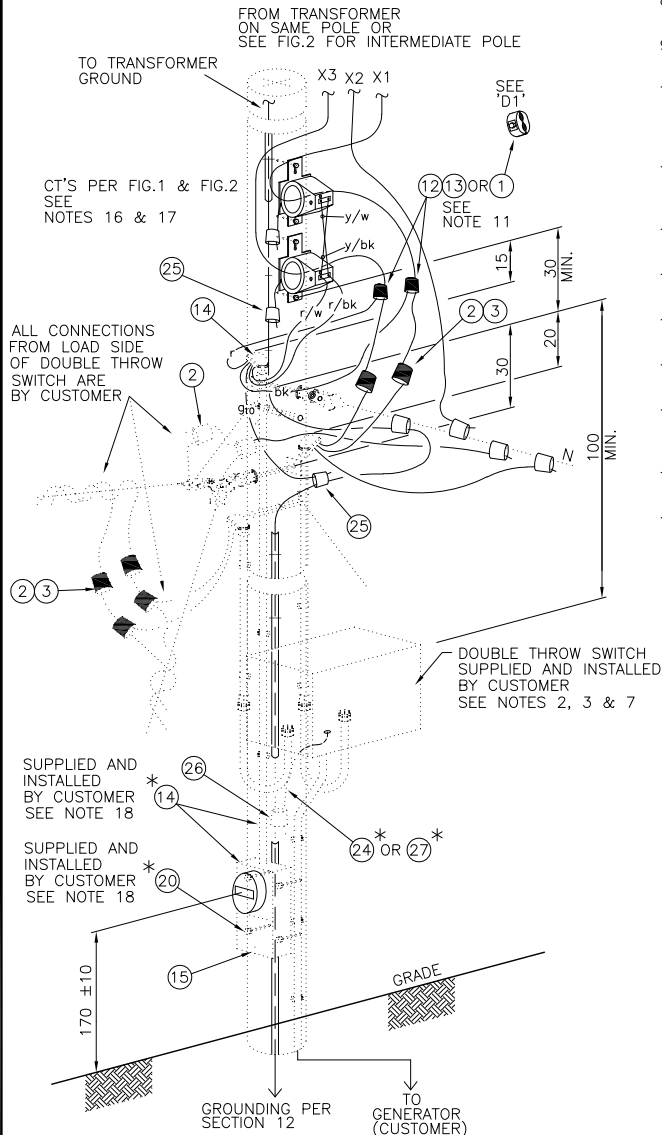

FIG.3
17. FIG.3 COULD BE APPLIED TO EITHER CT MOUNTING CONFIGURATION DEPICTED IN FIG.1 OR FIG.2.